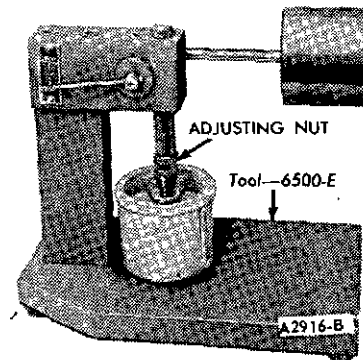

FIG. 6 Adjusting Ram Length
4. Adjust the length of the ram so that the pointer is 1/16 inch below the starting mark when the ram contacts the valve lifter plunger (Figure 6) to facilitate timing as the pointer passes the start timing mark.